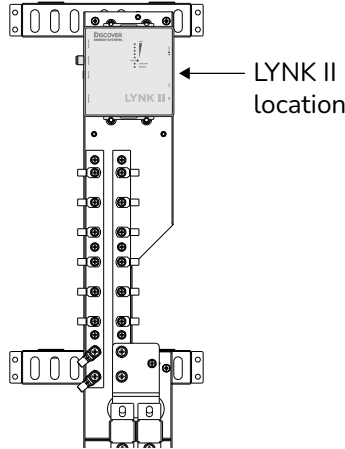

Figure 17. Attach LYNK II to Busbar Mounting Assembly
- If using a LYNK II in the system, attach it to the busbar mounting assembly as shown in Figure 17.